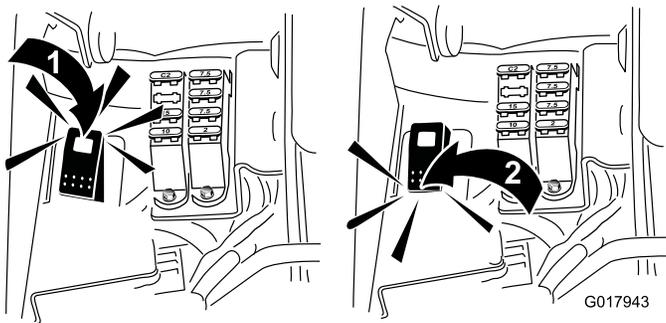

Figure 57
5. Switch the Backlap Switch to the reverse (R) position (Figure 57).